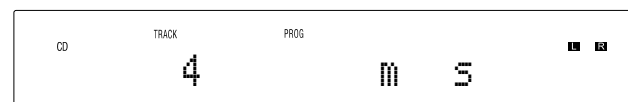

Figure 31
3. In a similar manner, enter the remaining Tracks 4 and 2. Refer to figures 31 thru 34.